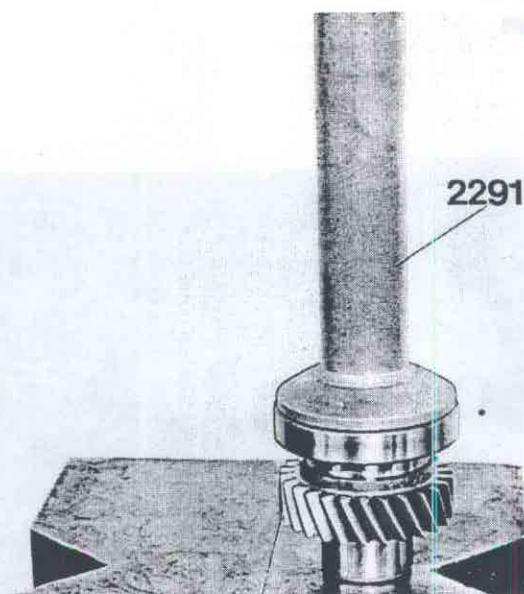

Fig. 43-172. Pressing on bearing
1. Press the small ball bearing first on the shaft (on the side where the shaft has lands) with 2291, Fig. 43-172.